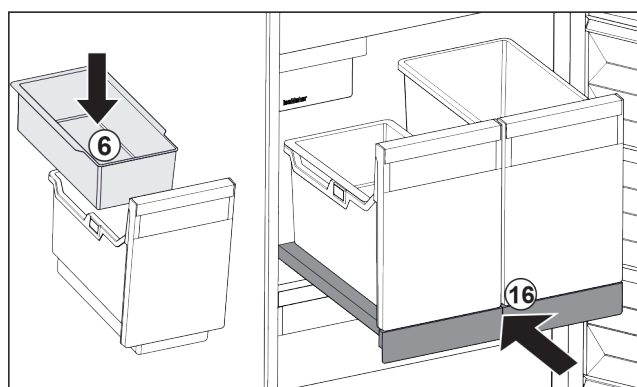

Fig. 25
- Insert hang-on tray Fig. 25 (6) for ice cubes.
- Slide in the pull-out board with container (IceTower). Fig. 25 (16)